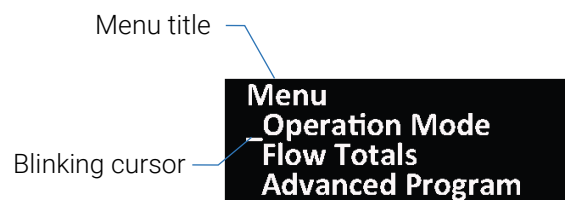

Figure 10
- Press the up or down arrow key to move the blinking cursor to a new line (figure 10)
- A menu title on the top line of the LCD screen lets you know the current menu option you are on (figure 10)